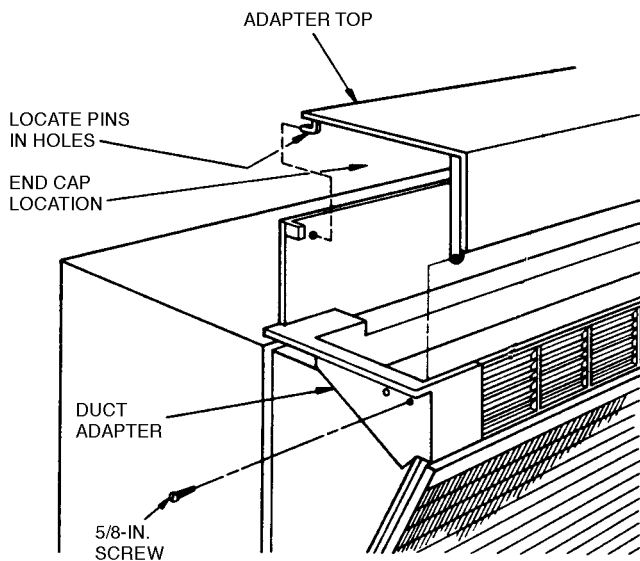

FIGURE 11 — DISCHARGE PLENUM ASSEMBLY
2. Remove the adapter top panel by removing one screw at each end of unit as shown in Figure 11. Rotate the front of the panel up and back and lift free.